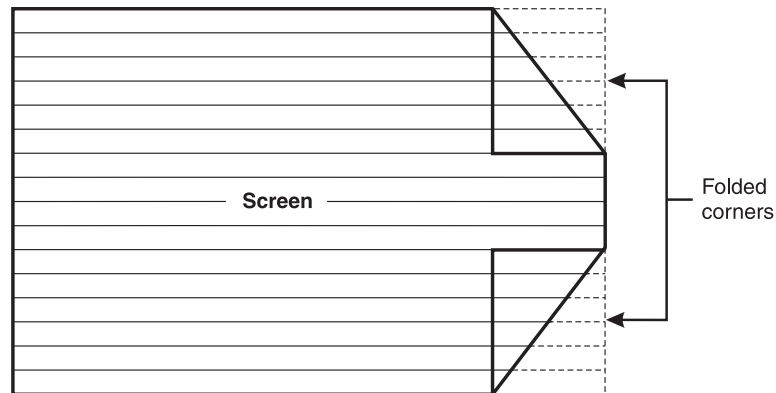

Figure 13. Screen Folding Diagram
- 8 Fold each corner at a 45° angle to the center of the screen as shown in Figure 13.